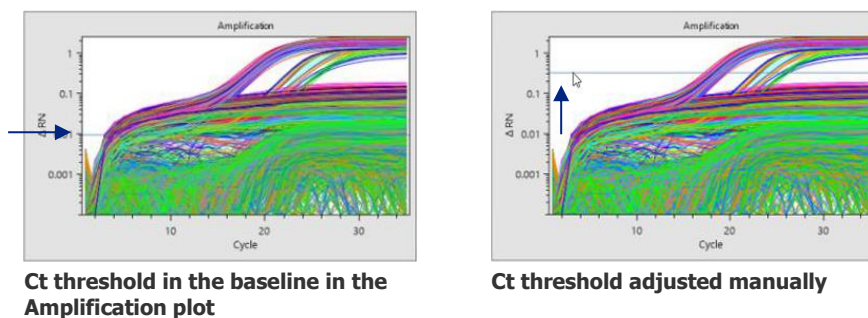

Figure 21. Adjusting the Ct threshold
- g** In the **Details Views** pane, click **Edit**, then click and drag the threshold line so that it falls above the background signal and within the exponential phase of the fluorescence curves (Figure 21).